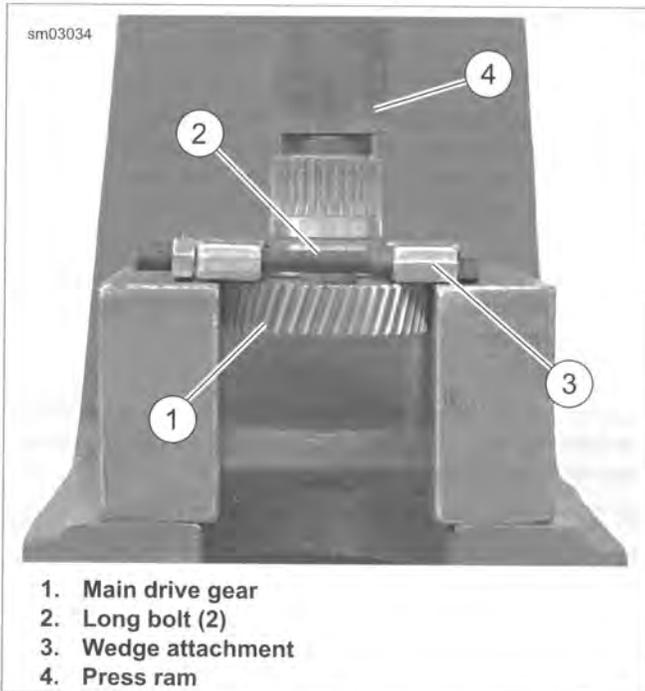

Figure 6-38. Removing Inner Bearing Race From Main Drive Gear
- See Figure 6-38. When the main drive gear is removed, a portion of the bearing inner race remains attached to the main drive gear. If the main drive gear is to be reused, this inner race must be removed first.
9. See Figure 6-38. Use WEDGE ATTACHMENT (Part No. HD-95637-46B) and LONG BOLTS (Part No. HD-95637-10) to remove inner race from main drive gear.